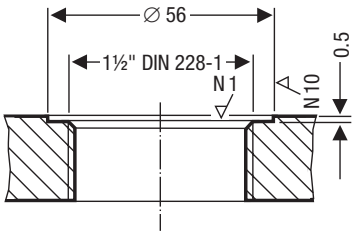

Fig. 8
1. Check seating surfaces of threads or flange provided on vessel or boiler standpipe. **Fig. 6, Fig. 8**
- The seating surfaces of the standpipe or the flange provided on the vessel must be accurately machined, see **Fig. 6, Fig. 8**.